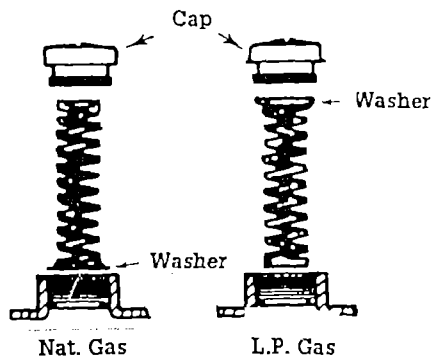

Figure 8
4. Remove the cap with screwdriver slot. Carefully remove the spring, then the washer. Place the spring on the regulator first, then the washer. Replace the cap over the washer and spring. Tighten cap. See Figure 8.